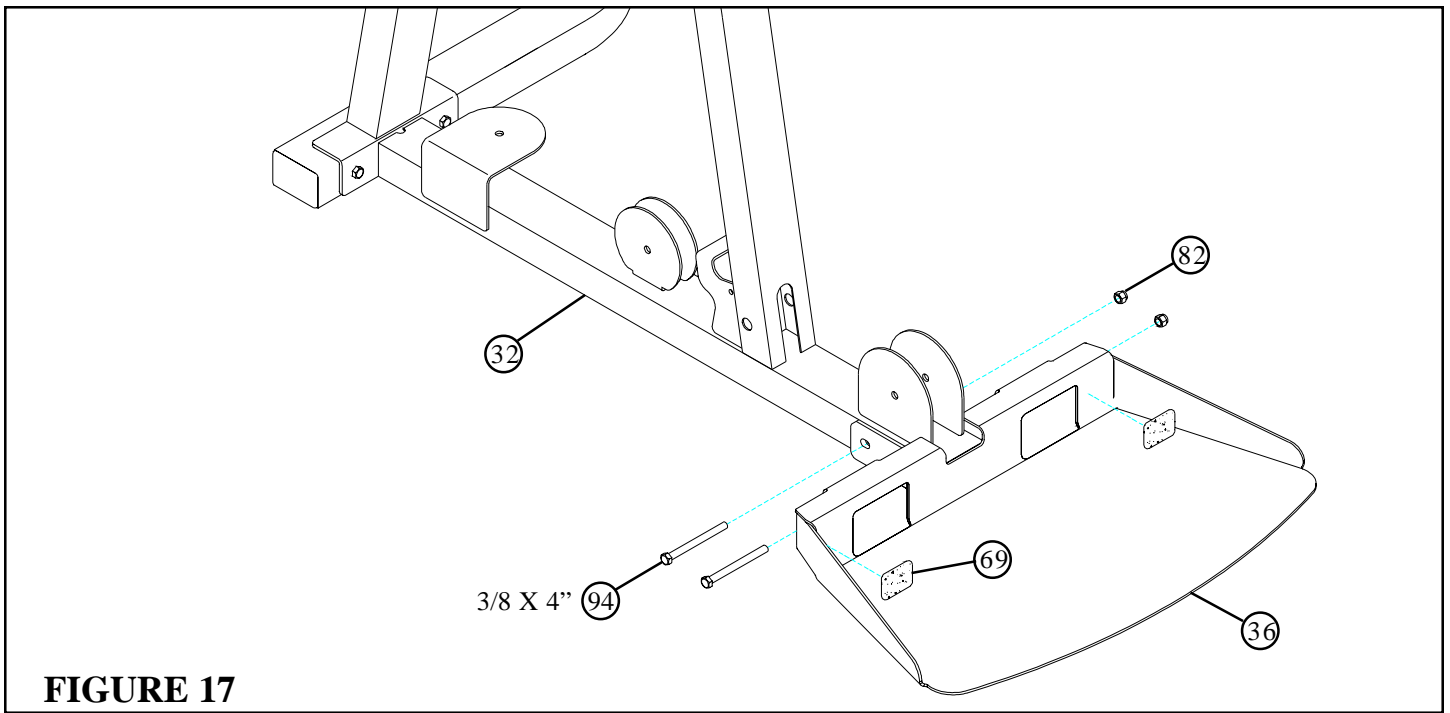

FIGURE 17
- **SECURELY** assemble the FOOT PLATE (36) to the PRESS FRAME (32) using two 3/8 X 4" BOLTS (94) and two 3/8" LOCK NUTS (82) as shown in FIGURE 17.
- Cut the 1-5/8" X 5-1/2" NON-SKID STRIP (69) in half and assemble the NON-SKID STRIPS (69) to the FOOT PLATE (36) as shown in FIGURE 17.